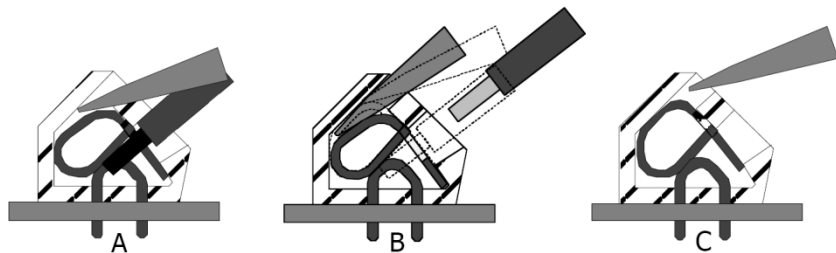

Fig. 4.19 Removing connections in screwless spring-loaded terminals
- Place a size 1 screwdriver in the upper opening and insert it turning slightly upwards (Fig. 4.19 A).
- Then draw the wire from the lower opening (Fig. 4.19 B).
- Withdraw the screwdriver (Fig. 4.19 C).